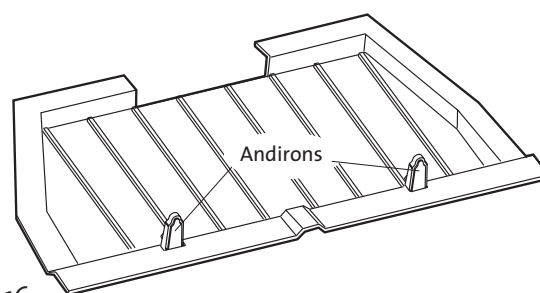

Figure 16.
- Load the fuel, usually with smaller logs first. **Keep logs behind the andirons.** See fig.16.